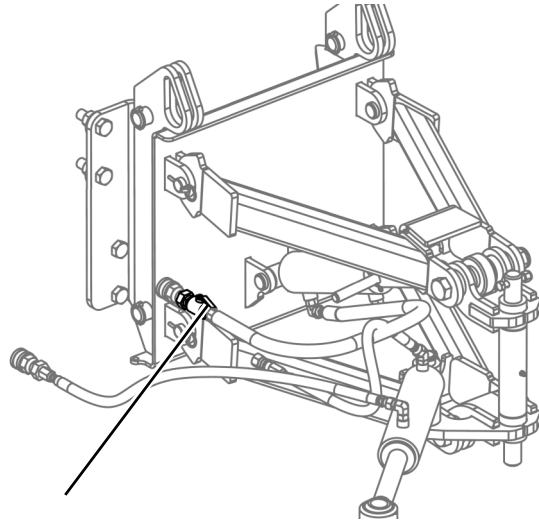

Figure 5-7
5. Disengage the hydraulic brush lift lock. (Figure 5-7)